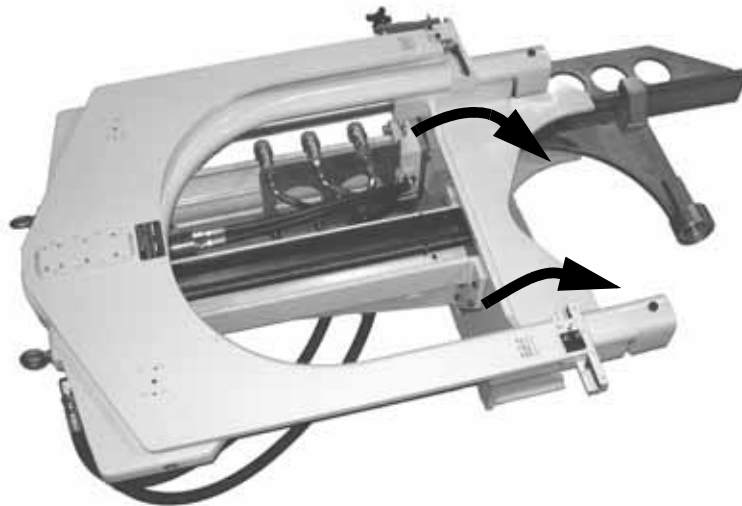

Figure 5-3. If you are positioning the saw horizontally or at an angle, use the lift hooks and also attach lift straps around the frame at the locations shown.
2. If you will be using the saw in a horizontal or angled position (cutting a pipe that is not horizontal), you will need to attach lift straps to the other end of the saw frame, as illustrated in Figure 5-3. Adjust the length of the strap to hold the saw at the required angle.